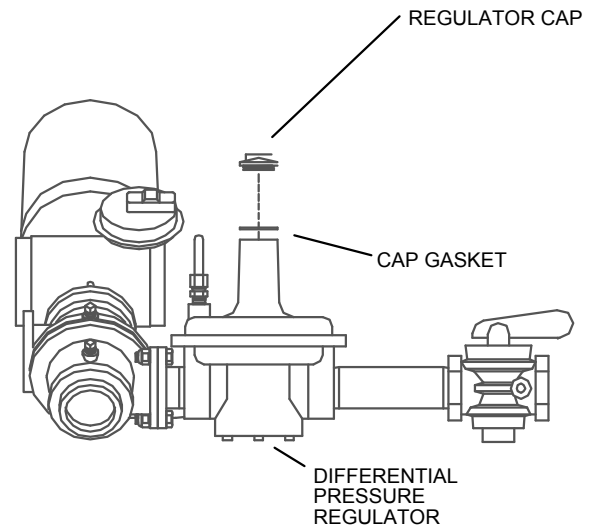

Figure 4.3
13. If the measured oxygen level is **not** within the range listed in Table 1, remove the regulator cap and cap gasket from the differential pressure regulator (see Figure 4.3) and proceed to step 14.
3. Remove the differential pressure regulator cap and cap gasket (see Figure 4.3).